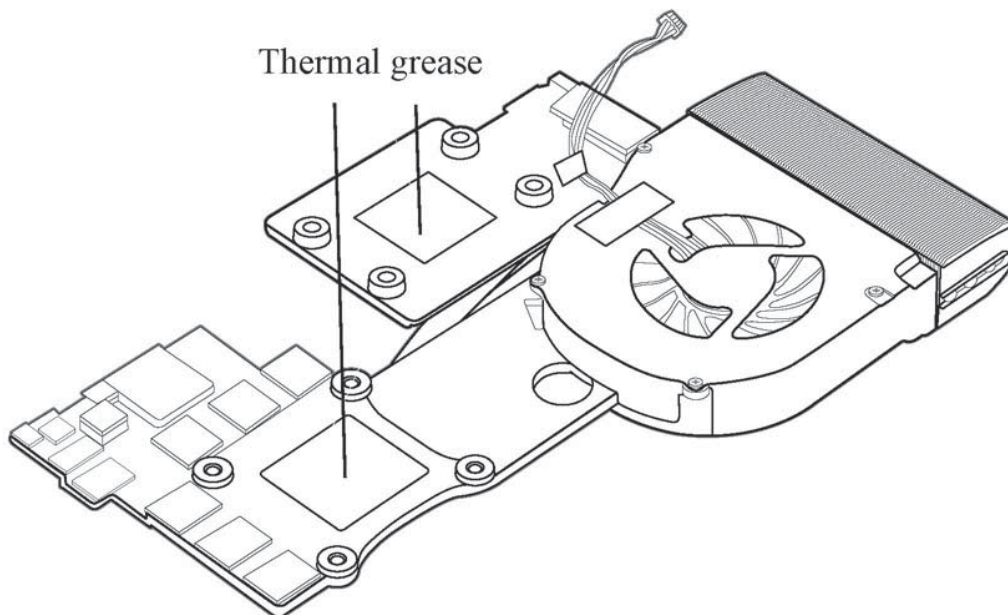

Figure 4-29 Reapply the Shinetsu 7762 grease on the thermal module
4. Reapply Shinetsu 7762 grease on the CPU thermal module as shown in Figure 4-29. If you use a new CPU thermal module, remove the release papers on the thermal pads first.